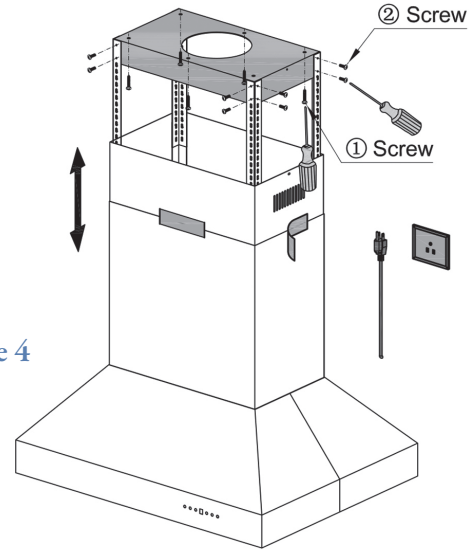

Figure 4
- 6 Slide chimney pieces over the angle iron on the hood. Pull the electrical plug to the top of the chimney sections. (Figure 4)